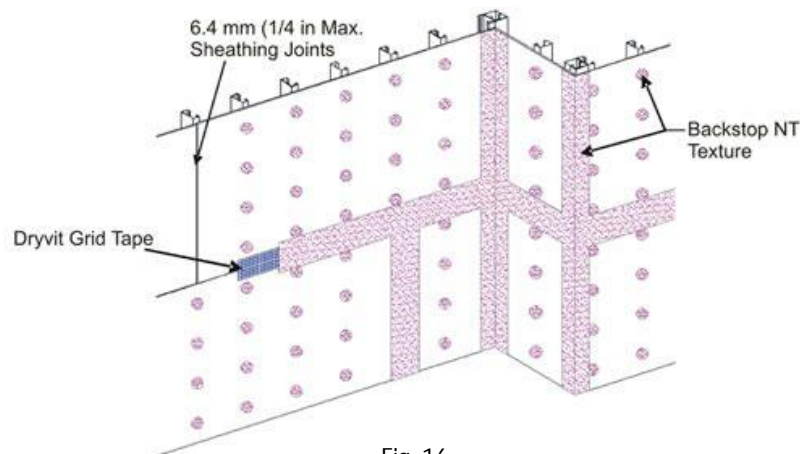

Fig. 16
- 1) Apply Dryvit Grid Tape as described in Section VI.E.1 above. Mix the Backstop NTX - Texture material as described in Section III.B.2. Using a stainless steel trowel or spatula, apply a layer of Backstop NTX - Texture over the Dryvit Grid Tape and spot all fastener heads – Figure 16.